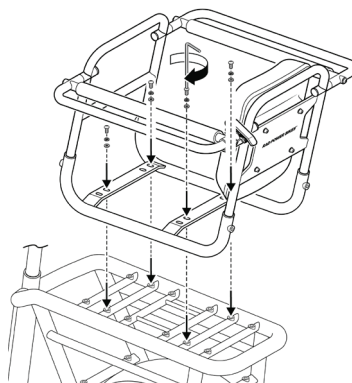

Figure 2 Mounting position on rear rack with threaded mounts.
- Position the Caboose so that the cross bars are aligned with the threaded mounts on the middle position of the rear rack cross bars (see Figure 2).